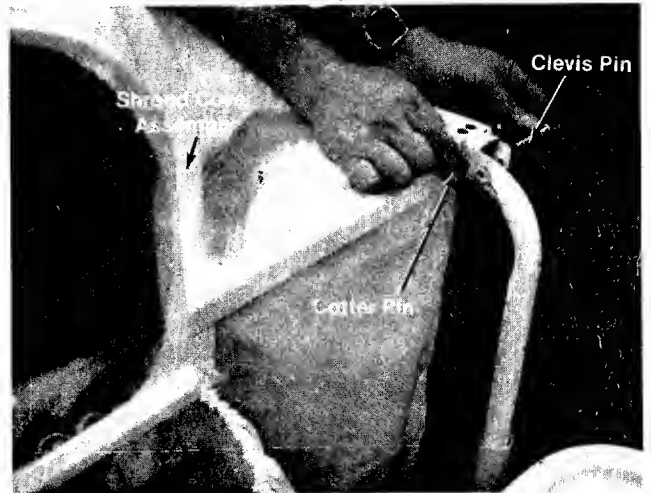

FIGURE 6
1. Align the holes in the two metal extensions with the holes in the tubular frame (on both sides). Secure in position with two clevis pins (H) and cotter pins (I). See figure 6.